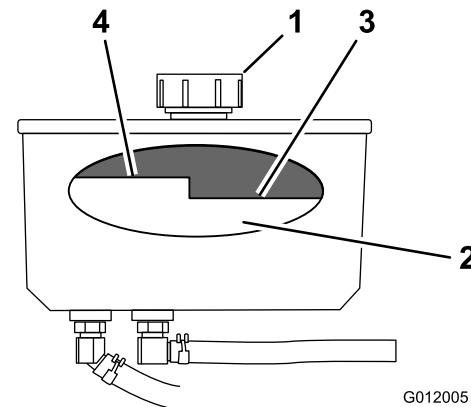

Figure 70
3. Clean the area around the cap and the filler neck of the hydraulic tank (Figure 70).
4. Remove the cap from the filler neck (Figure 70).
Note: The fluid level should be below the hot level of the baffle when the fluid is warm (Figure 70).